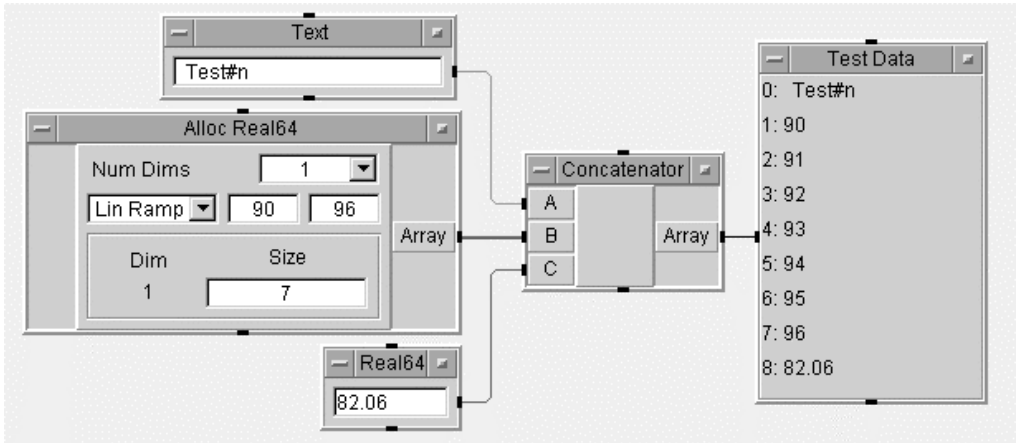

Figure 6.3. Creating arrays with the Concatenator (Lab 6-1a)
40. Run this program; it should look like Figure 6.3.